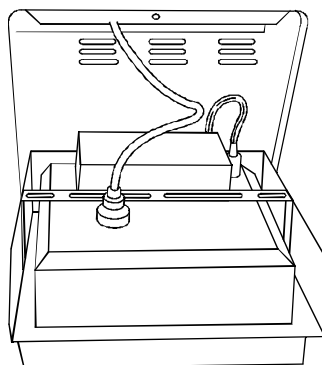

Fig. 17
4. Remove the cap on the port for taking out the recorder sensor and take out the recorder sensor. Then set the recorder fitting to the space of temperature recorder. (Fig. 17)